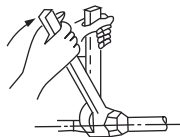

Fig.20
- Sufficiently tighten the flare nut with fingers, and then tighten it with a spanner and torque wrench as shown in Fig.20 & 21.